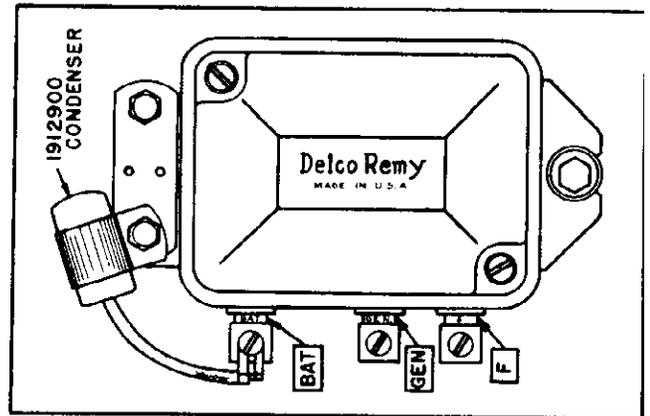

Figure 9
1. Mount voltage regulator condenser on voltage regulator. (See Figure 9.)